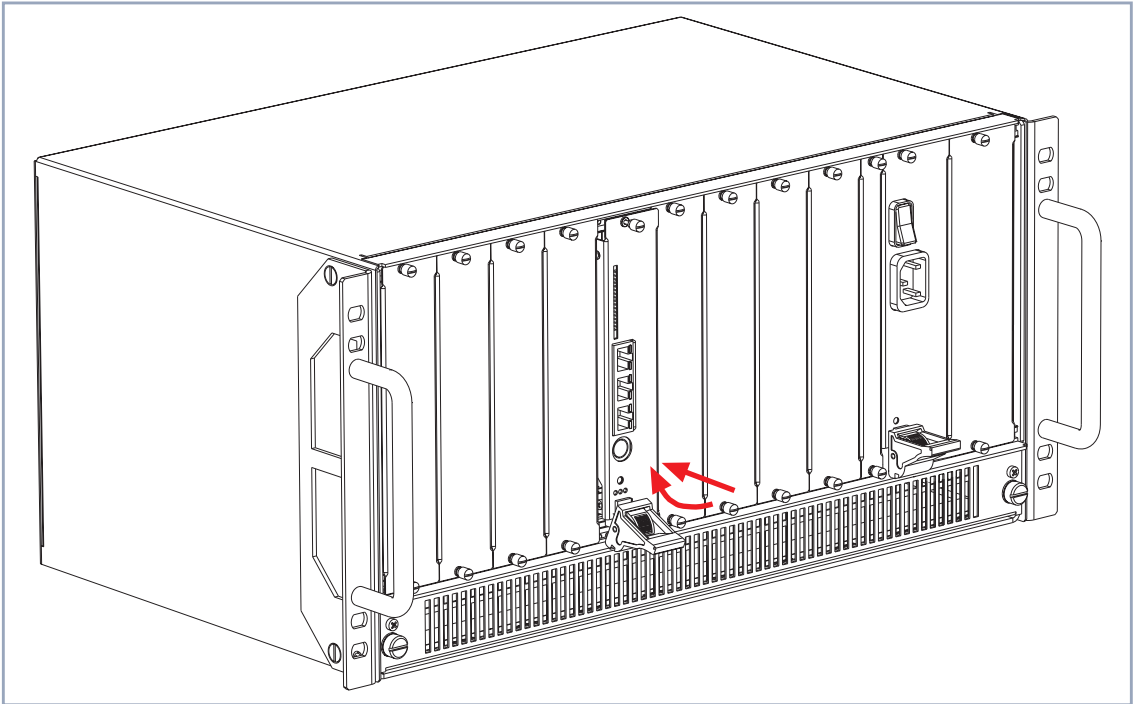

Figure 4-5: Installing the expansion card
- Once the expansion card reaches the connector, lift the injector/ejector handle until it is fixed to the cross section of the case front (see figure 4-5, page 39). If the injector/ejector handle switch pops up, the card is plugged in correctly.
- Once the expansion card reaches the connector, lift the injector/ejector handle until it is fixed to the cross section of the case front (see figure 4-5, page 39).